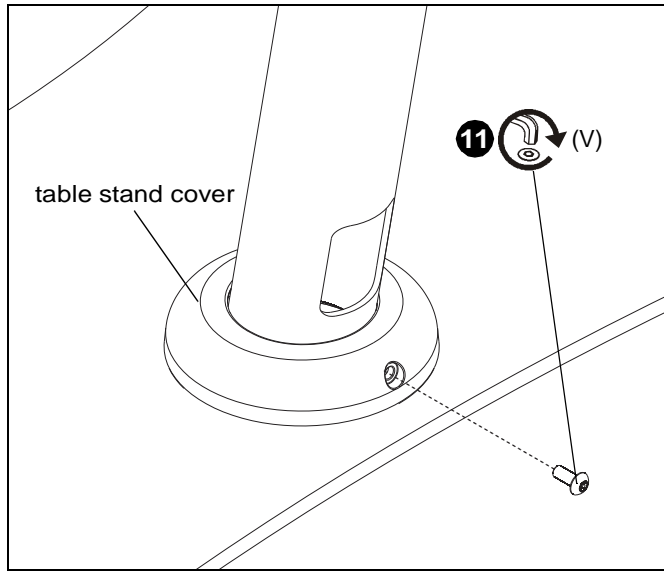

Figure 4
11. Use #10-24 x 1/2" security screw (V) to secure table stand cover to table stand (R). (See Figure 4)